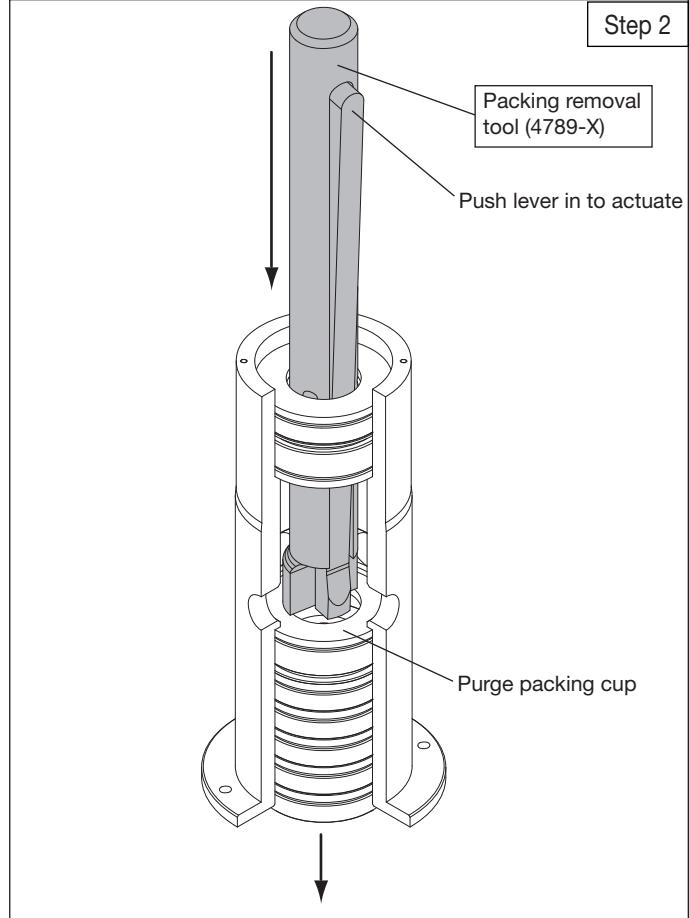

Figure 5.6B: Packing disassembly
- c. Insert Tool 4789-X into the packing cartridge body until the engagement end of the tool is just above the purge packing cup. See figure 5.6B.